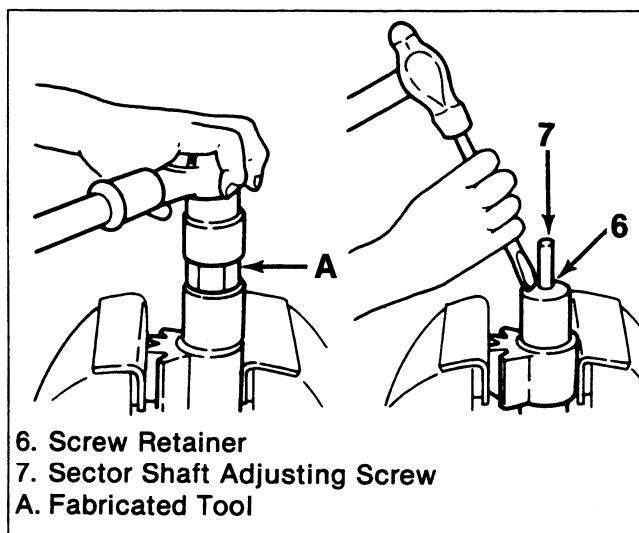

Figure 8. Sector Shaft Retainer Removal
- Screw retainer (6) (figure 8).
- Flatten out staked portion of the screw retainer (6) and remove retainer (figure 8).
- A tool (A) must be fabricated to remove and install the retainer (figure 8).
- Obtain a nut that will fit into the hex cutout in the screw retainer. Weld or braze the nut to a suitable deep-well socket. Drill the nut out, if necessary, so the tool will fit over the sector shaft adjusting screw (7) (figure 8).
- Sector shaft adjusting screw (7) (figure 8).
**Assemble (Figure 8)**
- Discard used retainer and install a new one. Use tool (A) fabricated during disassembly. Install and fully tighten the screw retainer (6) and back off 180 °. Retighten to a torque 39 N·m (29 lb·ft) and back off 20 degrees. Check that the sector shaft adjusting screw (7) turns smoothly.
- Stake the screw retainer (6) in position.